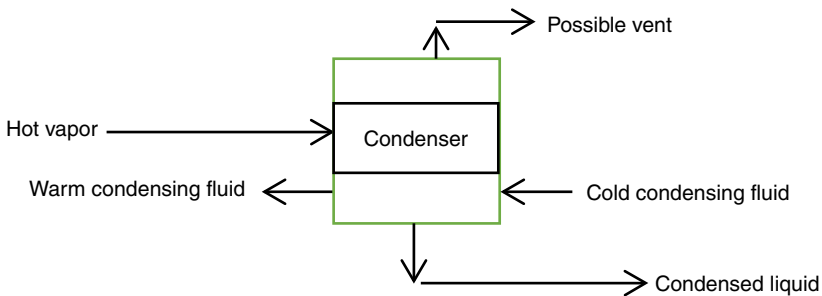

Figure 8.3 Condenser.
- 4) Condensers. This refers to a heat exchanger being used to condense a vapor stream into a liquid. It could refer to any number of mechanical configurations. It is most frequently seen used to condense the overhead vapor from a distillation column (distillation will be discussed in detail in Chapter 10) as seen in Figure 8.3.